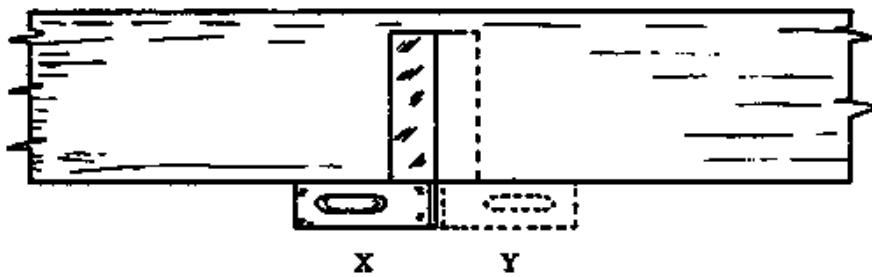

Fig. 6
2. Lay the blade in position "X" and draw a line along the blade (Fig. 6).